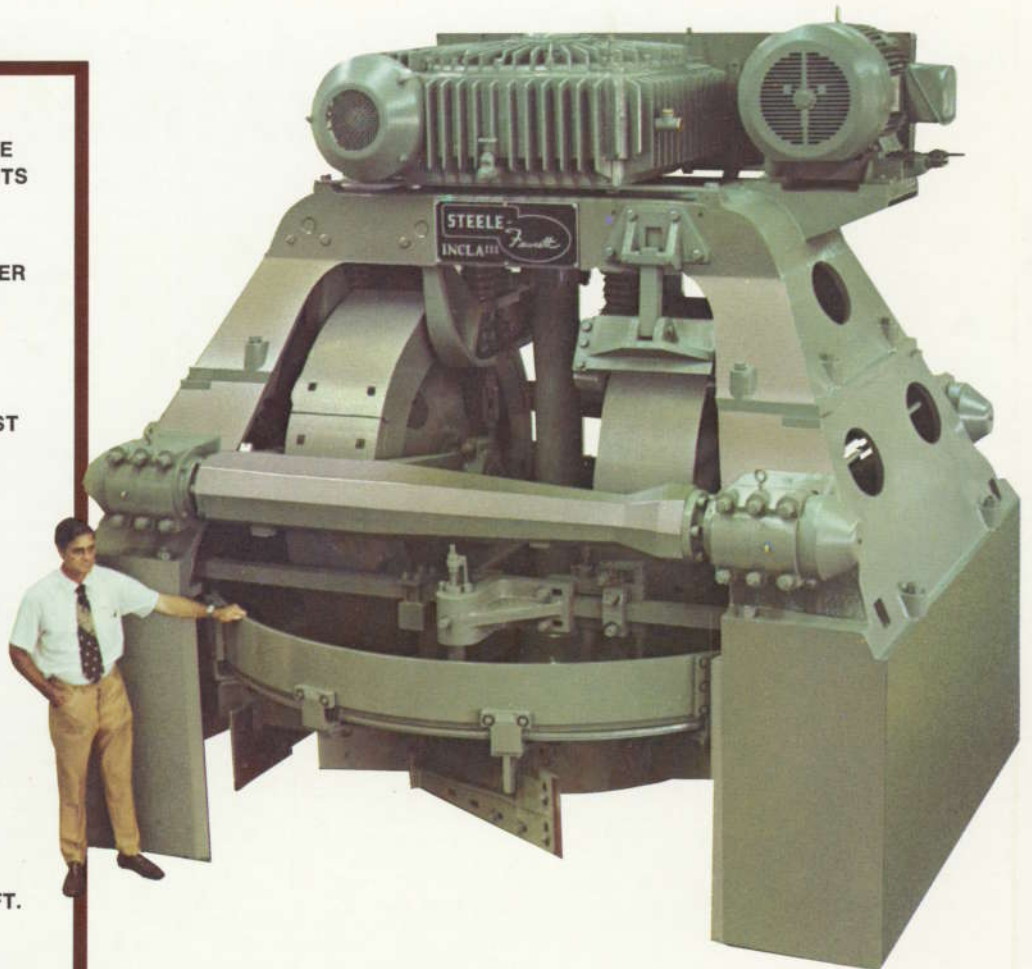

Fig. 1 Standard Dry Pan (rotating-rim) Version
**GEAR OR WORM REDUCER:** (Figs. 1, 5 & 6) Cast of DUCTILE (SG) iron, mounted at top of, and entirely supported by, Vertical Shaft. Worm cut in solid shaft of AISI 4320 steel, carburized, hardened, and ground. Worm Wheel SAE 65 hard gear-bronze, mounted on DUCTILE (SG) iron Center. Ratio 29.5 to 1. Efficient grease, oil and dirt seals, and cooling fan. Mechanical factor of safety is far more than adequate for 125 HP; even the thermal rating is almost two-to-one.
**DRIVING MOTOR:** (Figs. 1 & 14) Standard is Frame No. 444T, 125 HP x 1800 rpm (60 Hz) or 1500 rpm (50 Hz), Design "C" (high starting torque type), with Mag. ACL Starter. Starting under load greatly facilitated with Roller Suspension Devices (Figs. 7 & 8). For medium or light duty a 100 HP motor may be substituted. Slip-ring motor may substitute for Design "C". We can drill the Motor Support Bracket to accept a variety of motor base rails.
**VERTICAL SHAFT:** (Figs. 1, 5 & 11) 9" (229 mm) dia., two-piece, forged steel with Flanged Coupling just below Gearbox.
Cast entirely of DUCTILE (SG) iron, it is assembled as one complete, self-contained, oil-retaining, dustproof unit incorporating the upper section of the Vertical Shaft with Flanged Coupling projecting below, but can be removed easily. The flat steel Gearbox Mounting Springs (clearly visible in Figs. 1 and 8) merely prevent rotation of the Gearbox, while permitting slight vertical movement of the whole Vertical Shaft and Gearbox Assembly.